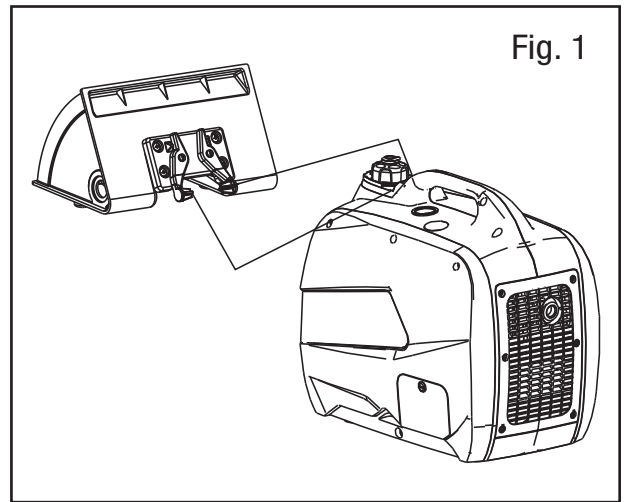

Fig. 1
1. Clip the parallel connection kit onto one of the inverter generators (Fig. 1), or place the kit on dry ground.